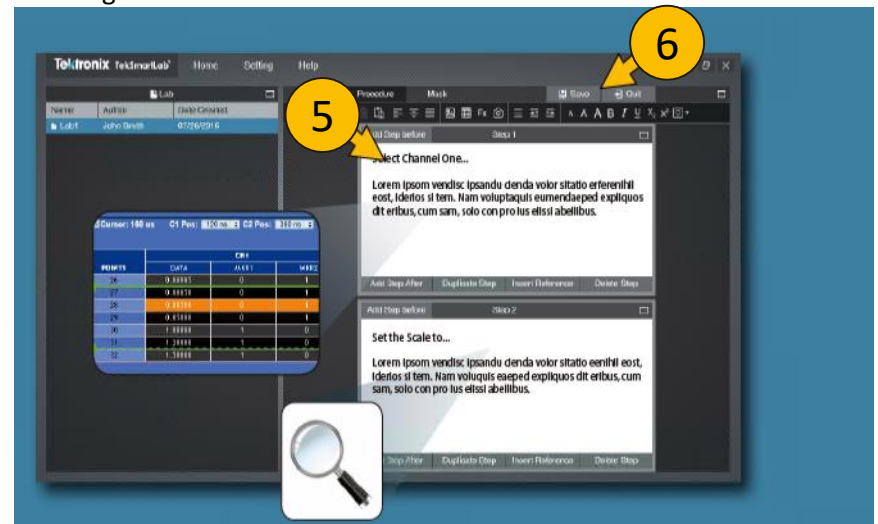

Figure 26. Creating a lab procedure for students to follow
- Click **Save** and **Quit** once finished figure (Figure 26).
9. Click **Save** and **Quit** once finished figure (Figure 26).